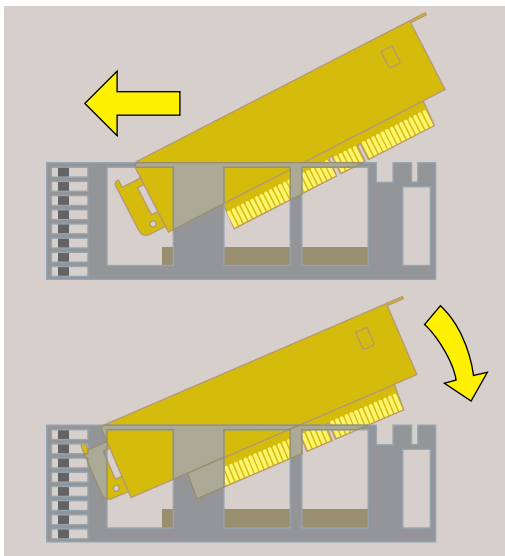

Figure 2-17 Replacing the PCI Tray in the System Module
7. Replace the tray in the system module (Figure 2-17).